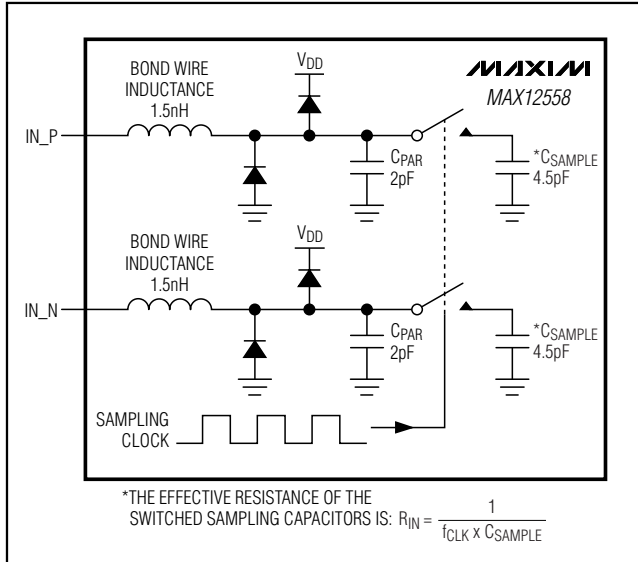
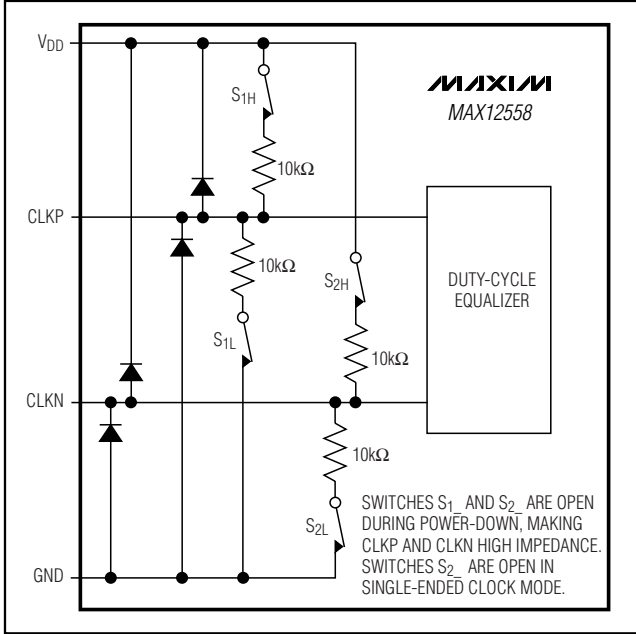

Figure 3. Internal T/H Circuit
Figure 4. Simplified Clock Input Circuit
Figure 3 displays a simplified functional diagram of the input T/H circuit. This input T/H circuit allows for high analog input frequencies (high IF) of 175MHz and beyond and supports a $V_{DD} / 2$ common-mode input voltage.
The MAX12558 sampling clock controls the switched-capacitor input T/H architecture (Figure 3) allowing the analog input signals to be stored as charge on the sampling capacitors. These switches are closed (track mode) when the sampling clock is high and open (hold mode) when the sampling clock is low (Figure 4). The analog input signal source must be able to provide the dynamic currents necessary to charge and discharge the sampling capacitors. To avoid signal degradation, these capacitors must be charged to one-half LSB accuracy within one-half of a clock cycle. The analog input of the MAX12558 supports differential or single-ended input drive. For optimum performance with differential inputs, balance the input impedance of IN_P and IN_N and set the common-mode voltage to mid-supply ($V_{DD} / 2$). The MAX12558 provides the optimum common-mode voltage of $V_{DD} / 2$ through the COM output when operating in internal reference mode and buffered external reference mode. This COM output voltage can be used to bias the input network as shown in Figures 9, 10, and 11.
The MAX12558 accepts both differential and single-ended clock inputs with a wide 25% to 75% input clock duty cycle. For single-ended clock input operation, connect DIFFCLK/SECLK and CLKN to GND. Apply an external single-ended clock signal to CLKP. To reduce clock jitter, the external single-ended clock must have sharp falling edges. For differential clock input operation, connect DIFFCLK/SECLK to O_{VDD} . Apply an external differential clock signal to CLKP and CLKN. Consider the clock input as an analog input and route it away from any other analog inputs and digital signal lines. CLKP and CLKN enter high impedance when the MAX12558 is powered down (Figure 4).
- 1) INAP/B, INAN/B analog inputs are disconnected from the internal input amplifier (Figure 3).
- 6) CLKP, CLKN clock inputs enter a high-impedance state (Figure 4).